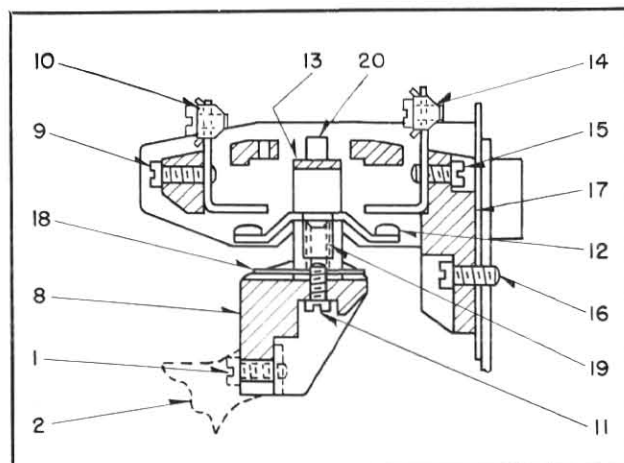
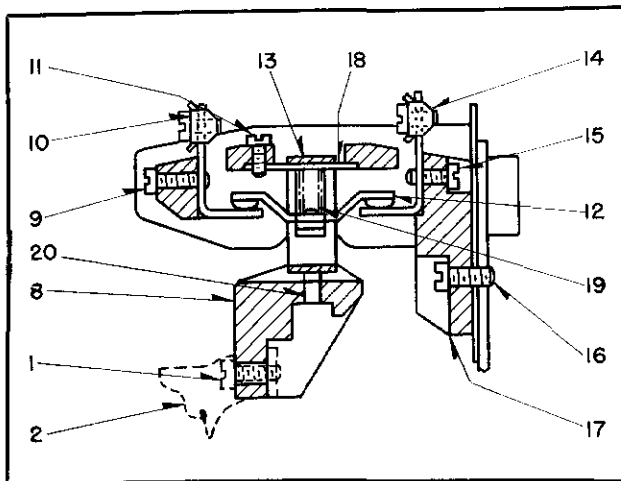

FIG. 2. Typical Normally Open Contact in De-Energized Position
FIG. 3. Typical Normally Closed Contact in De-Energized Position
To reassemble follow the same procedure except in reverse order making sure that pin (20) Fig. 3 engages hole in crossbar for all N.C. contacts.
**Changing Contacts From N.O. To N.C.** (Refer to Figs. 2 and 3) — To change N.O. contact, Fig. 2, to N.C. position per Fig. 3, first remove crossbar mounting screws (1) and withdraw crossbar (8). Second, remove front stationary contact mounting screw (9) and front stationary contact (10). Third, remove contact saddle mounting screw (11); invert the complete moving contact assembly and secure it in place in the molded contact base per Fig. 3 using the same screw (11) as before. Replace the front stationary contact (10) and operate the contact manually a few times to make sure it is free. Replace the crossbar assembly (8) and screws (1), making sure that pin (20) Fig. 3 engages hole in crossbar.
**Normally Open Contacts.** (See Fig. 2) Inspection of N.O. contacts is accomplished by removing the two crossbar mounting screws (1), whereupon the crossbar (8), complete with the moving contacts, may be removed and all contacts are accessible.
**Normally Closed Contacts.** (See Fig. 3) Inspection of N.C. contacts is accomplished by first removing the crossbar mounting screws (1) and the molded crossbar (8) complete with any moving contacts that may be attached thereto. Next, the front stationary contact (10) and its mounting screw (9) are removed and screw (11) is removed, allowing the complete moving contact assembly to be taken out for inspection.